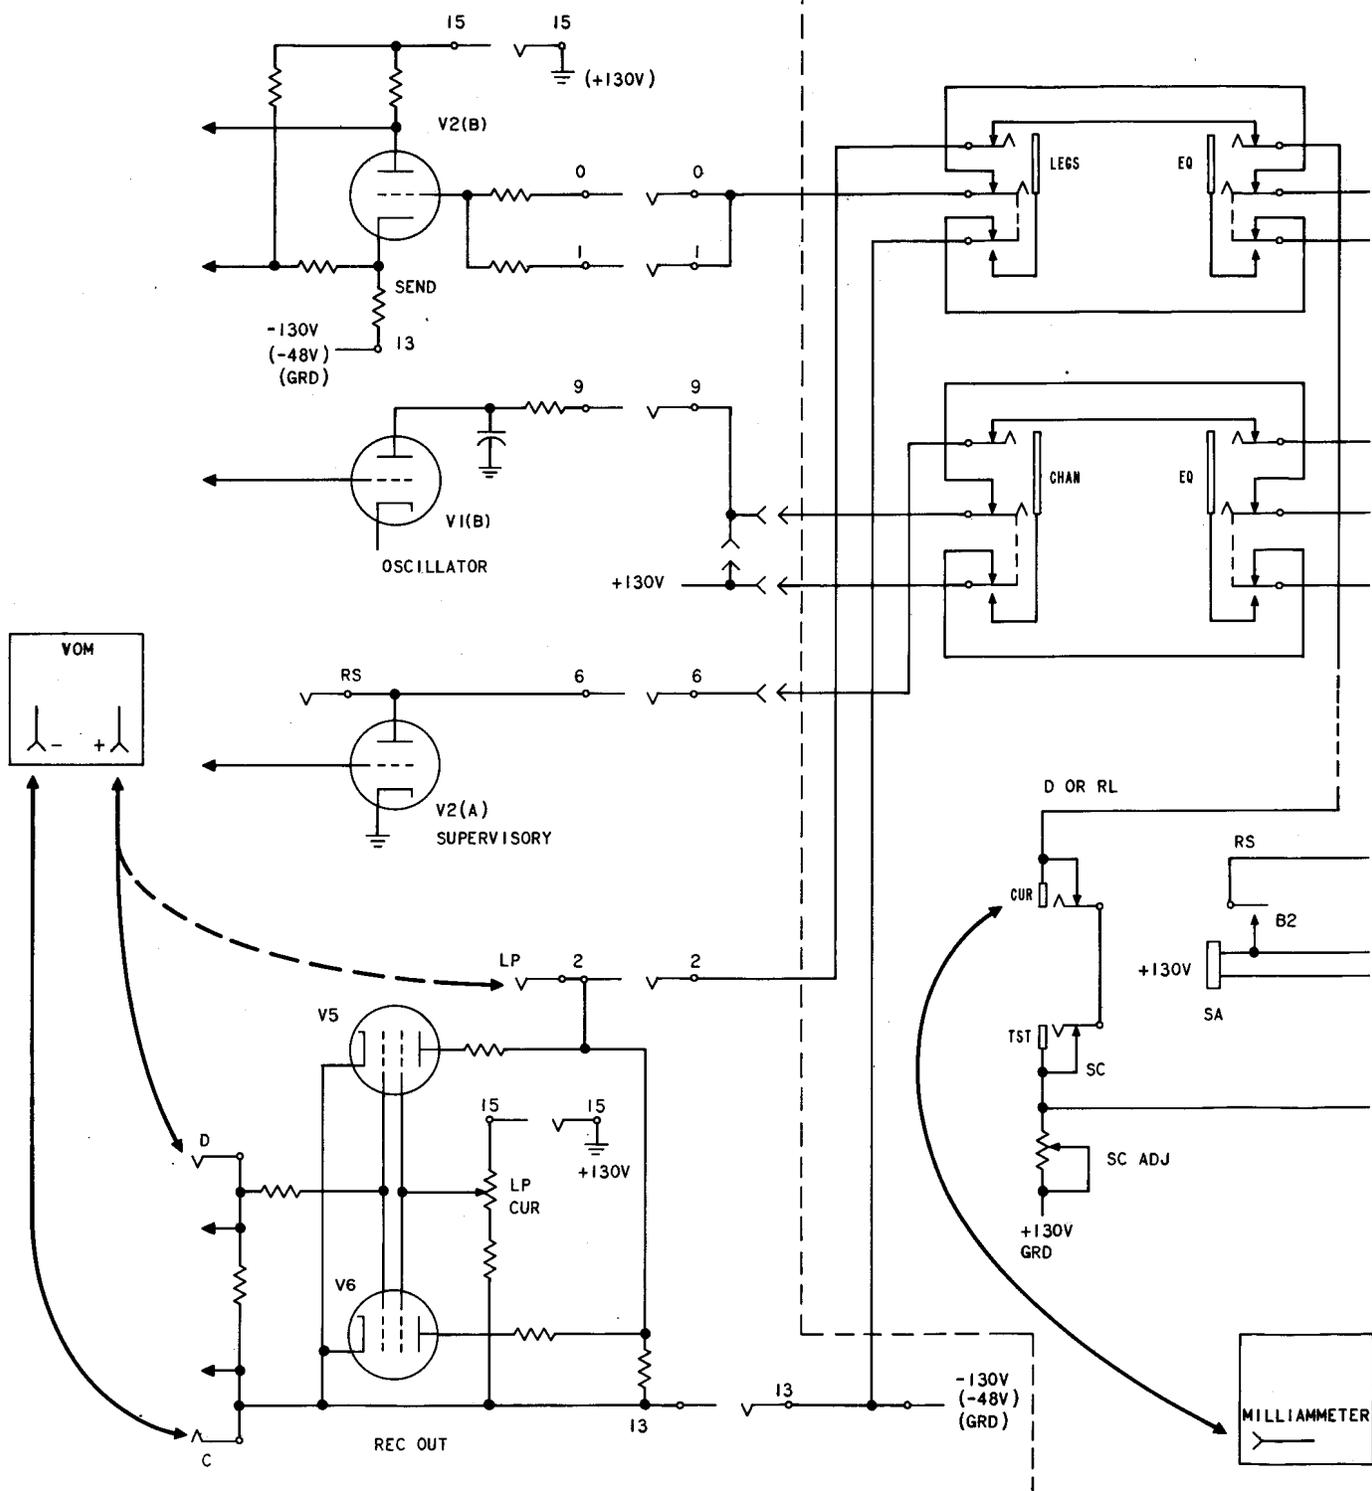

Fig. 9—Test M Connections
*This test assumes that testing and patching jacks are provided in the carrier telegraph terminal bay; however, these jacks are optional and may not be provided. When local loops or interconnecting circuits are provided at the back-to-back location, the CUR and TST jacks (Fig. 9) are replaced by a TLT jack arrangement. In this case, use the TLT looping jacks when this test specifies the CUR or TST jacks.*
Condition the VOM to measure 80 Vdc, connect the positive (+) VOM lead to pin jack LP, and the negative (–) VOM lead to pin jack C (see Fig. 9).
Patch the dc milliammeter to the CUR jack (see Fig. 9) of the channel terminal under test.